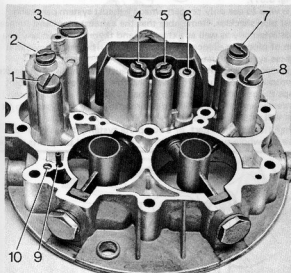

Fig. 3.29. Location of Zenith carburettor jets (Sec. 9)
- 9 The various jets can be removed from the jet housing assembly as required, (See Fig. 3.29). Clean the jets using clean petrol and an airline, if available.